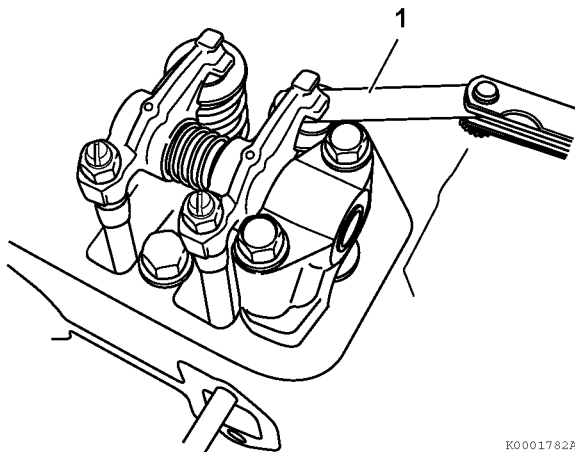

Figure 6-37
3. Insert a feeler gauge (**Figure 6-37, (1)**) between the rocker arm and valve cap, and record the measured valve clearance. (Use the data for estimating the wear.)